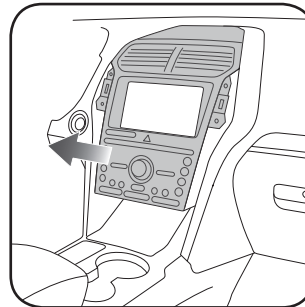

Fig. 1.3
3. Unclip and remove the radio and climate control panel. Unplug the connectors. (Fig. 1.3)